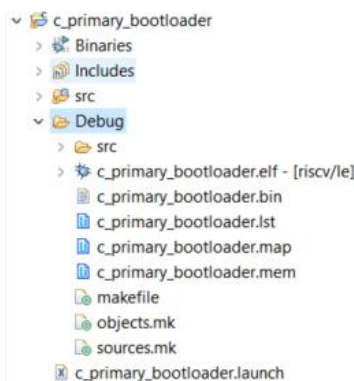

Figure 8.30. Bootloader Binary Created
30. This creates a debug folder as shown in Figure 8.30. The binary created is named as c_primary_bootloader.mem. This goes as a part of system memory in Propel Builder design.